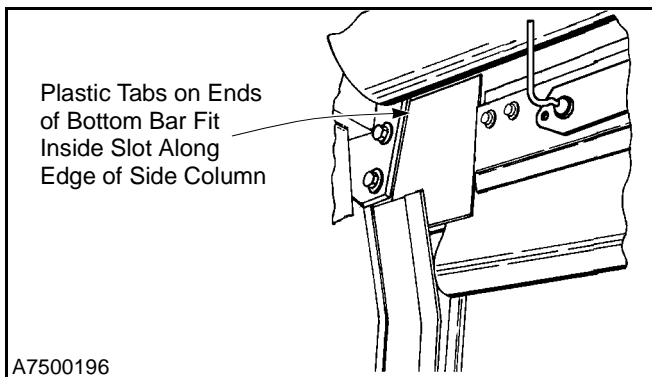

Figure 26
3. Insert the plastic tabs on the bottom bar into the slot of each side column. (See Figure 26.)